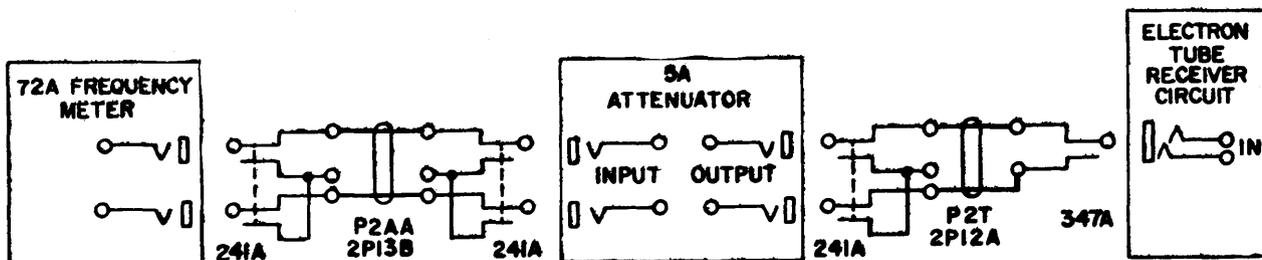

Fig. 2
**4.01** The following procedure covers the adjustment of the AGC1 potentiometer which controls the input to the V1 amplifier tube and is associated with the 700-cps signal. Connect the frequency meter, No. 5A attenuator, and electron tube receiver circuit as shown in Fig. 2. Connect the T and R jack of the No. 35 test set to the RC1 jack of the circuit under test, using a P2P cord. Operate the BAT. and GRD CO key of the No. 35 test set. Move all the resistance sliders on the No. 35 test set to the extreme left. Lock operated the No. 1 key on the No. 35 test set. The current reading of the No. 35 test set meter depends upon the output voltage of the V1 tube, which depends on the plate voltage of the V1 tube. If the current reading is not within the specified limits for the plate voltage which was measured in the preparation, loosen the locknut of the AGC1 potentiometer and adjust this potentiometer until the current reading is the required value; tighten the locknut of this potentiometer. Remove all connections and restore all keys.
**4.02** The following procedure covers the adjustment of the AGC2 potentiometer which controls the input to the V2 amplifier tube and that is associated with the 1100-cps signal. Connect the frequency meter, No. 5A attenuator, and the electron tube receiver circuit as shown in Fig. 2. Connect the T and R jack of the No. 35 test set to the RC2 jack of the circuit under test, using a P2P cord. Operate the BAT. and GRD CO key of the No. 35 test set.